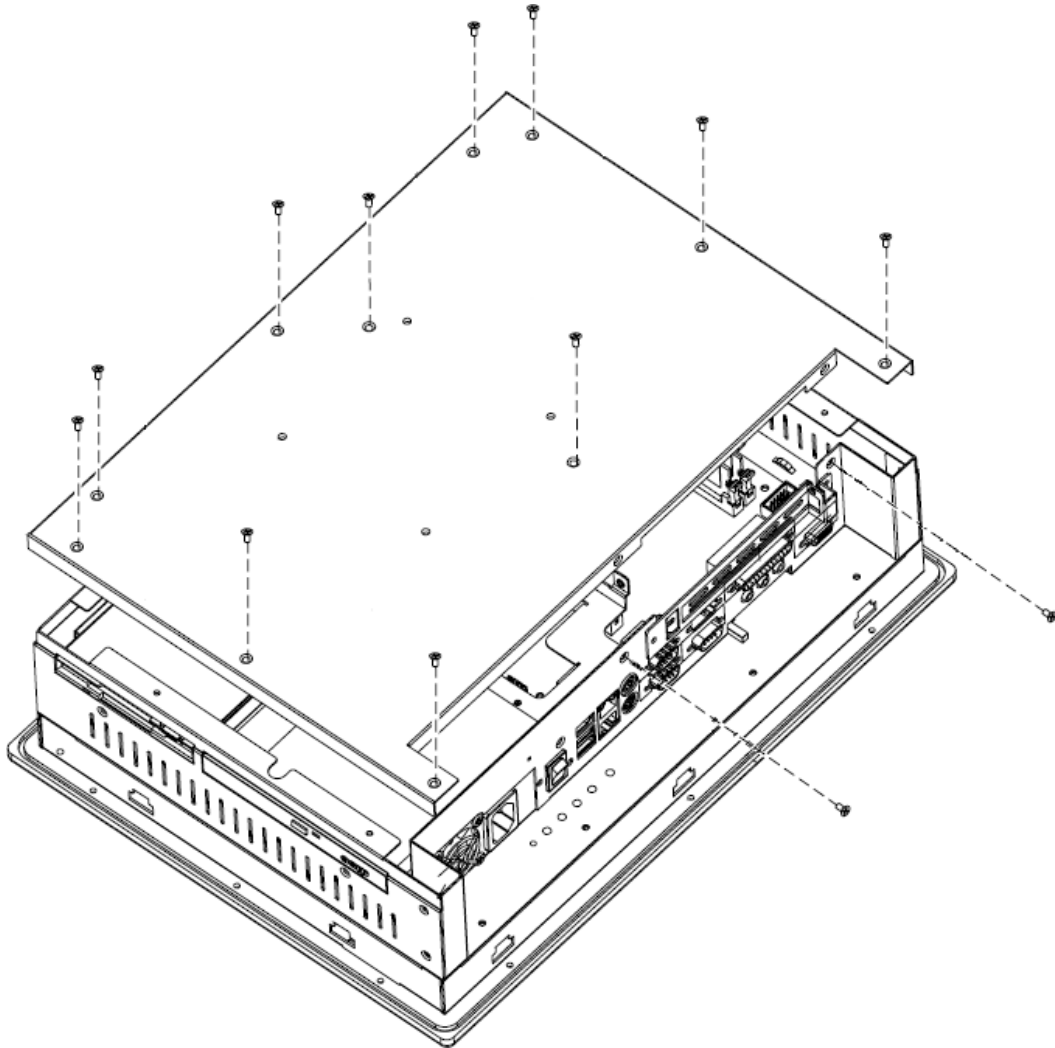

Figure 4-1: Rear Cover Retention Screws (Real Panel)
Step 2: The back cover is secured to the chassis with thirteen retention screws, eleven on the back cover and two on the bottom panel (**Figure 4-1**). Remove the retention screws and lift the cover off the PPC-5170.